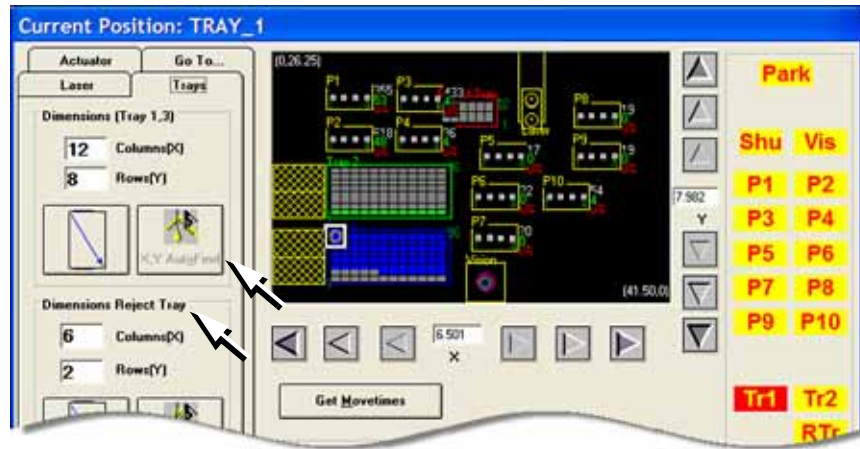

Figure 3-39: The X,Y AutoFind button for trays is on the Trays tab, as well as Reject (Bin) Tray information. (PS588 shown.)
4. In the Dimensions Reject Tray fields, enter a value for Columns (X) and Rows (Y) for the Reject Tray. These values set the maximum number of devices that can be sent to the Reject Tray before the displaying the message Reject is Full. In Figure 3-39, the message will display after 12 (6 x 2) devices are placed in the Reject Tray.